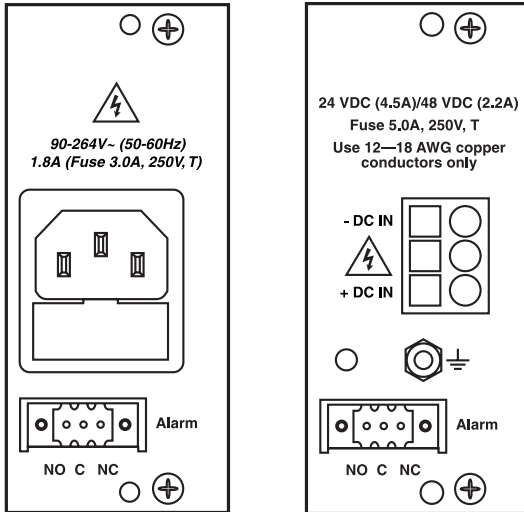

Figure 3-2. The rear panels of the AC (left) and DC (right) rear cards.
The rear cards of the MicroRACK's power supplies (shown in Figure 3-2 on the next page) feature a 3-position, screw-type terminal plug for the alarm connections. Both normally-open (NO) and normally-closed (NC) relay contacts are provided. Choose the appropriate set of contacts for the intended application: